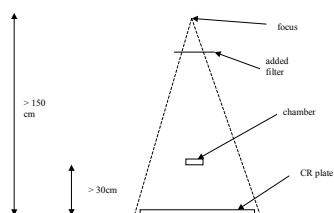

Figure 1: Set-up for exposure index calibration
- a) Position an ion chamber at ~1.2 m from the focus (see figure 1) and at least 30 cm above the table (record the actual distances). Collimate to the ion chamber